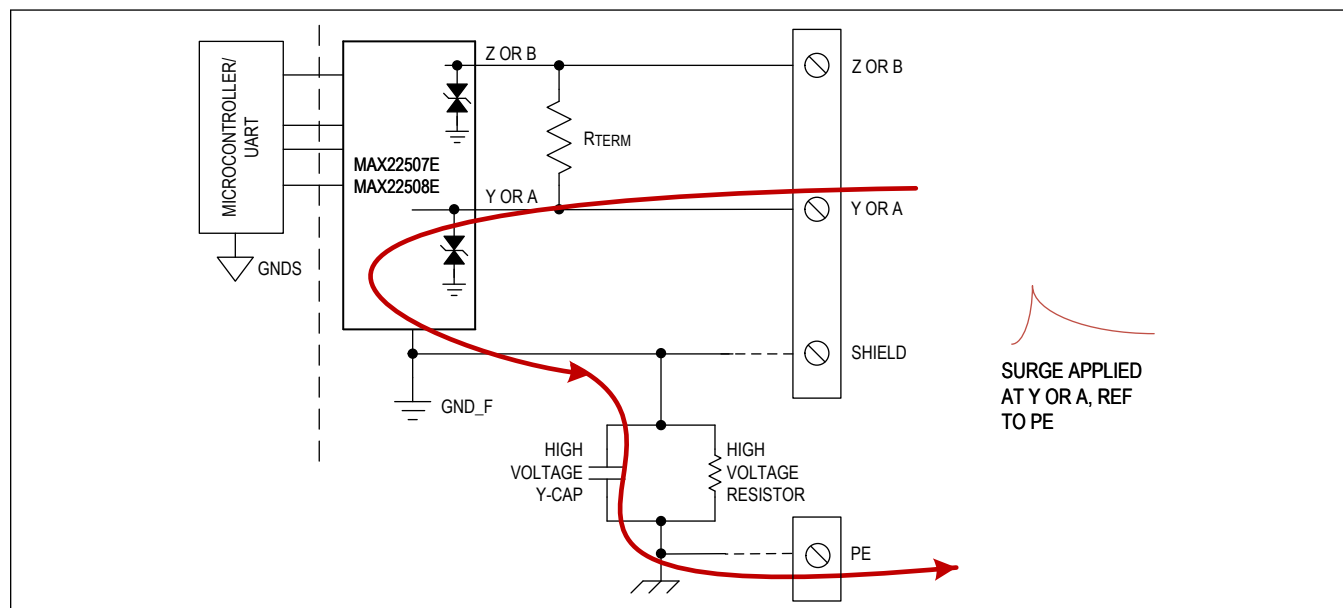

Figure 13. Surge Protection
Per the IEC 61000-4-5 standard, surge pulses must be referenced to protective earth (PE). Isolate PE from the field ground and connect a high voltage capacitor and a high voltage resistor between the field ground and PE. Figure 13 shows the current flow through the transceiver and PCB during a surge event. The MAX22507E/MAX22508E survived 8/20 μ s surge testing up to $\pm 2\text{kV}/42\Omega$ with a 1000pF high-voltage capacitor without the need for external TVS protection.